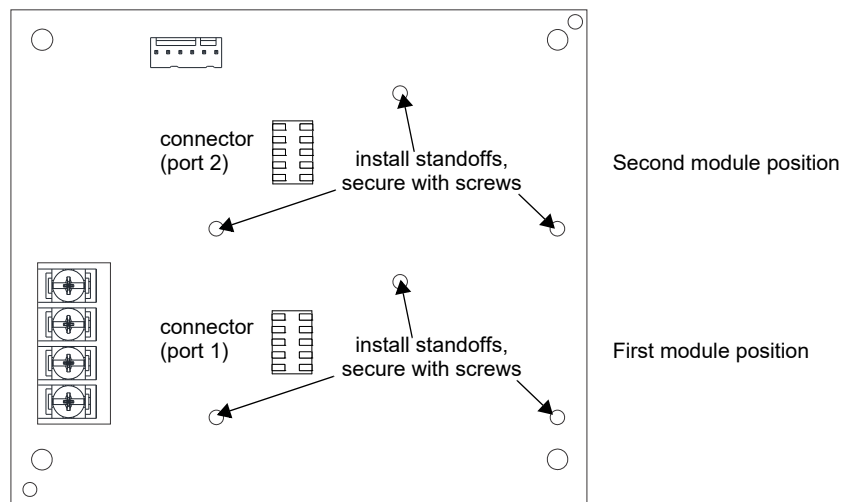
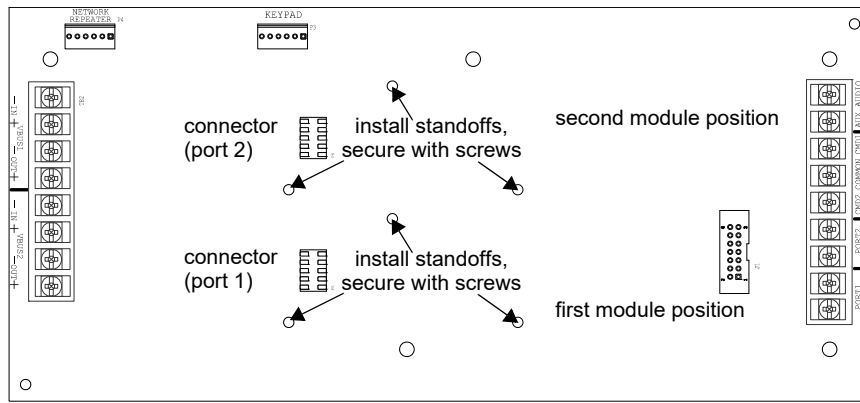

Figure 3 TR-NIC Installation
Figure 4 ECS-NVCM Installation
3. Install three standoffs from the hardware kit into the holes shown in Figure 3 and Figure 4 below.
Figure 4 illustrates mounting locations on the ECS-NVCM.